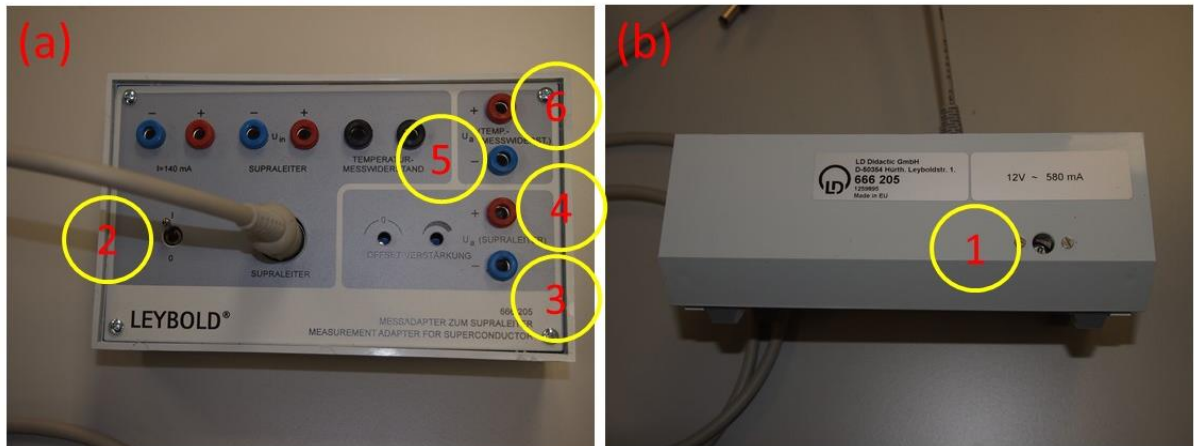

Figure 2. Measurement adapter for superconductor. (a) Front of part. (b) Back part.
The Measurement adapter for the superconductor is shown in Fig. 2. The point (1) is the jack socket for plug-in power supply; it must be connected to the net through an adaptor (12 V AC). The point (2) is the on-off switch. The points (3) and (4) are the output for the measurement of the voltage drop at the ends of the superconductor sample. The points (5) and (6) are the output for the measurement of the temperature of the superconductor sample.